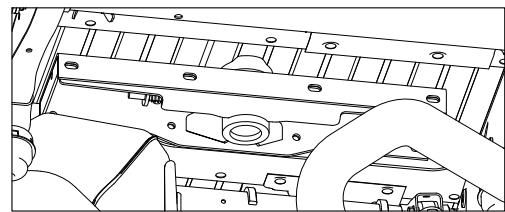

Figure B4: View of truck bed looking towards front of truck.
2. **Stage center section.** Raise the center section into place as shown in Figure B4, staging it for installation. When staged correctly, the receiver socket will be "offset" toward the rear of the truck. It may be helpful to pull down on the exhaust while positioning to allow extra room for maneuvering it into position.